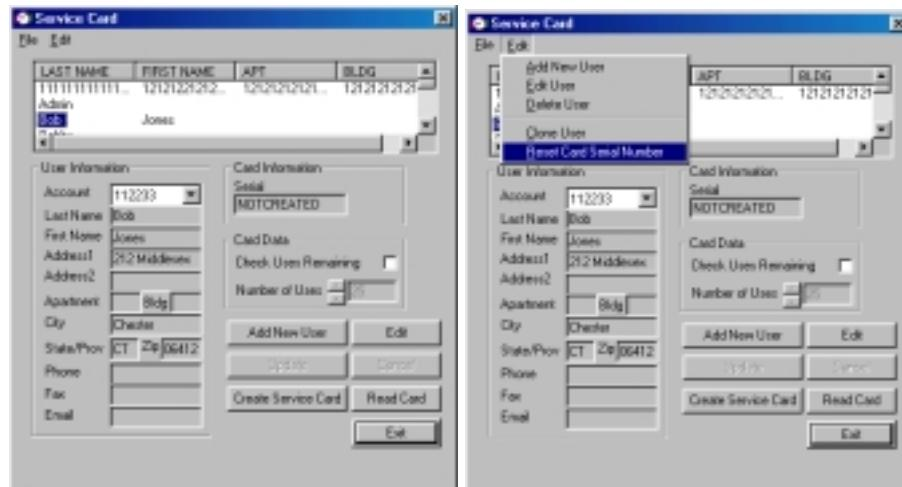

Figure 13.5 Resetting the Card Serial Number
2. Select the user whose card is to be reset (Figure 13.5).
4. Select Reset Card Serial Number from the Edit menu (Figure 13.5).